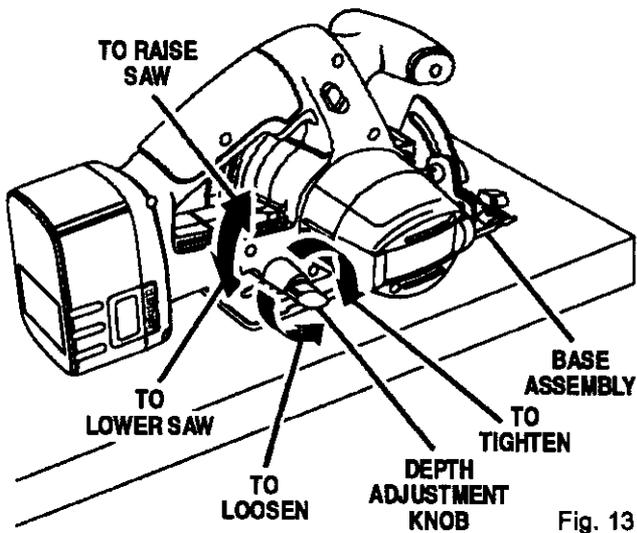

Fig. 13
- Loosen depth adjustment knob. See Figure 13.